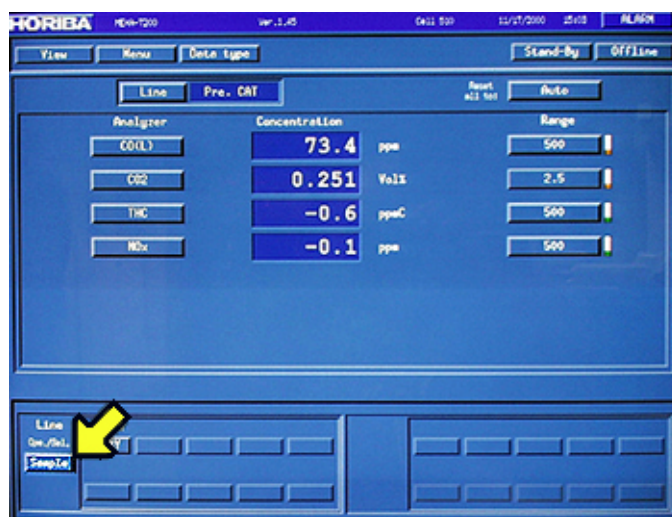

Figure 8
- 111 When the calibration is complete, select "Sample" See the arrow in Figure 8.